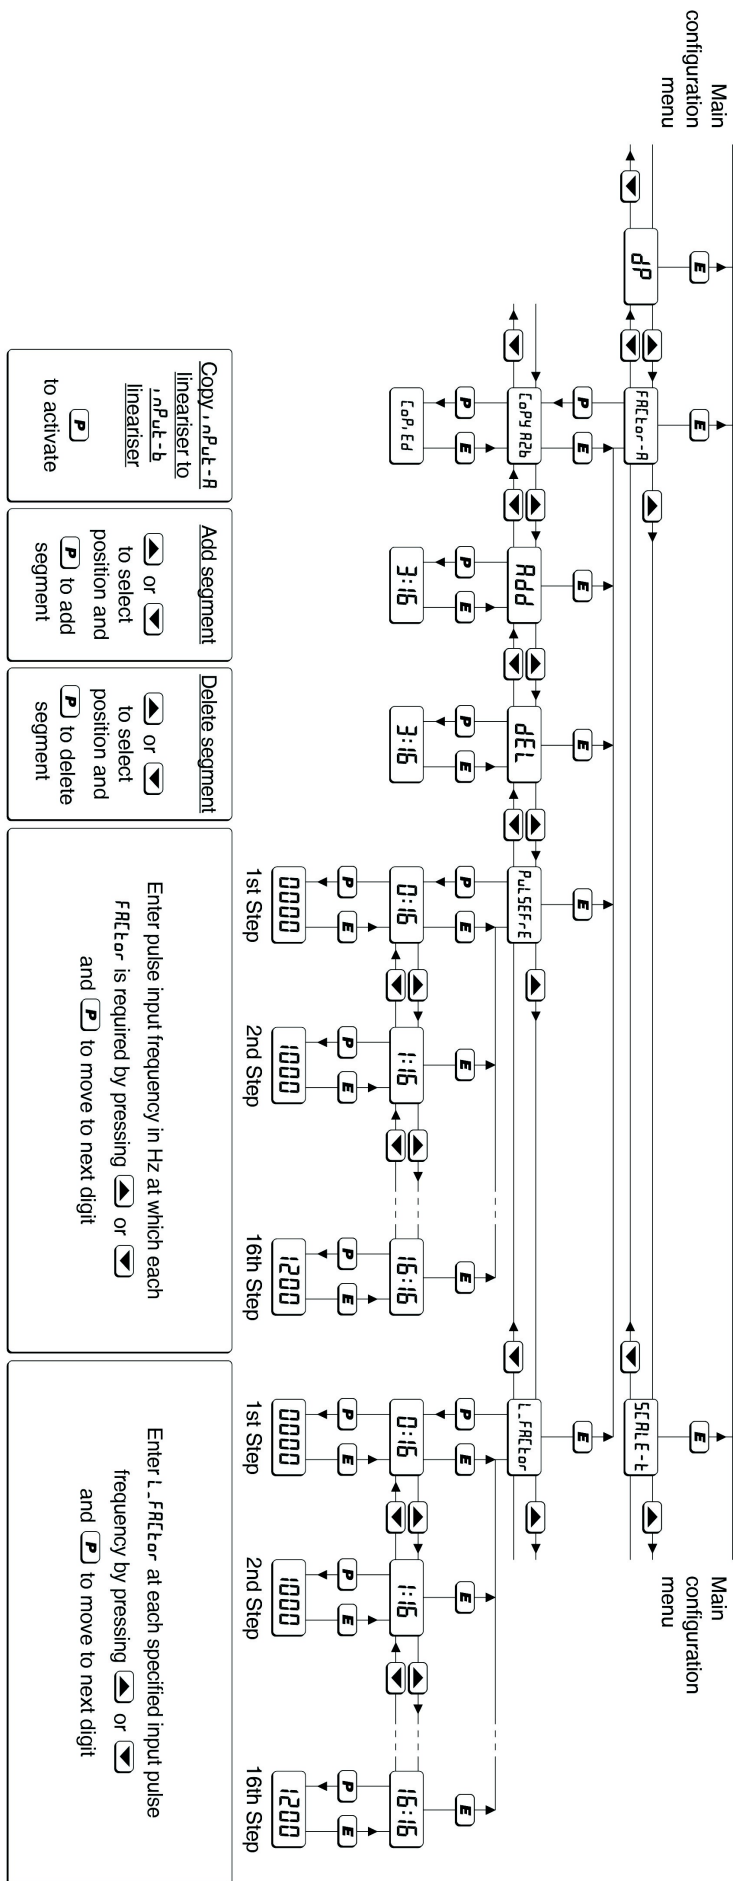

Fig 12 Lineariser configuration menu
The two linearisers are enabled by selecting **LIN** in **FUNCT** – see section 6.4. The configuration menu shown in Fig 10 remains basically unchanged, except that up to 16 values of the flowmeter K-factor, can be entered as **L-FRector**, together with **PULSE F** the corresponding input frequency at which each starts in the **FRector A** and **FRector B** functions. Fig 12 shows how the **FRector A** is extended.
This section summarises the lineariser configuration functions. When read in conjunction with Fig 12 it provides a quick aid for configuring each of the two linearisers. If more detail is required, each section contains a reference to a full description of the function.
**PuLSE Fr** is a sub-menu in the **FRCEor-R** function for entering the pulse input frequency at which each of the lineariser segments starts, see Fig 12.
**L\_FRCEor** is a sub-menu in the **FRCEor-R** function for entering the flowmeter K-factor for each of the lineariser segments, see Fig 12.